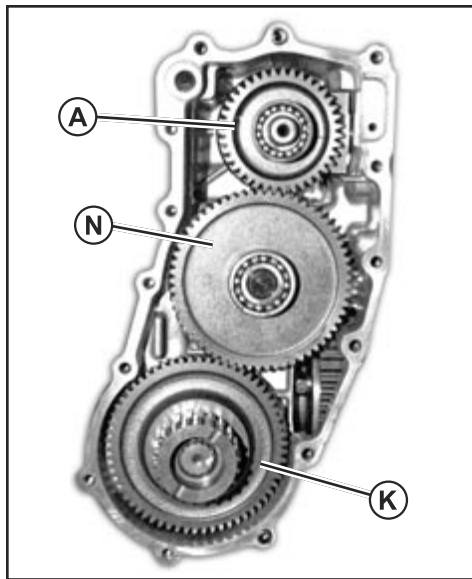

Fig. 19, Rear PTO Cover Removed
4. Remove PTO clutch assembly (A). (Fig. 19)
5. Remove PTO idler gear assembly (N). (Fig. 19)
6. Remove PTO gear (K). (Fig. 19)
7. Left axle must be removed to remove PTO output shaft assembly (L), (See "Rear Axle Assembly Removal and Installation" on page 41.)
NOTE: Idler gear (N) and shaft (O) must be replaced as a set. (Fig. 19)